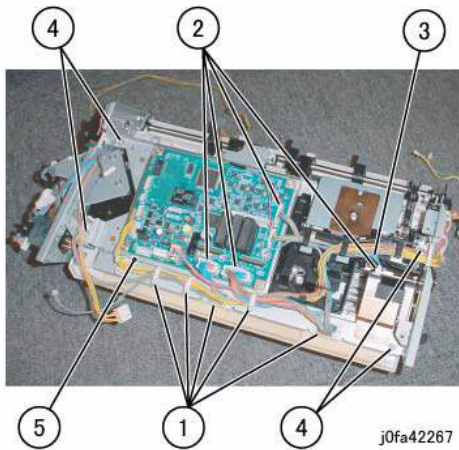

Figure 2 Removing the Bottom Plate
8. Remove the Bottom Plate (Figure 2):